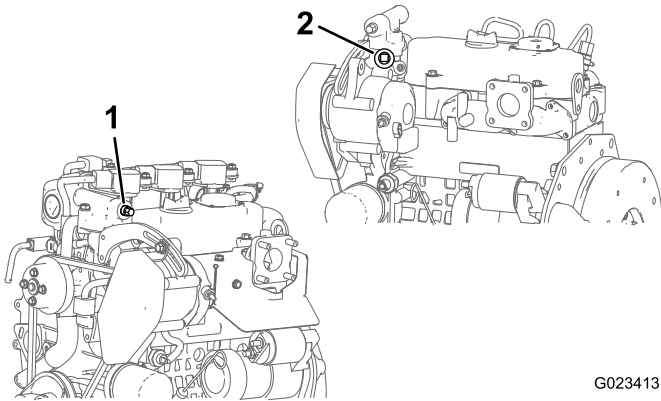

Figure 10
1. Remove the plug or temperature switch depending on the type of engine in the machine (Figure 10).
- For gas engines: Remove the plug in the thermostat housing and install the 5/8 inch straight fitting with a worm clamp (Figure 10).
- For diesel engines: Remove the temperature switch from the thermostat housing and install a tee fitting (Figure 10).